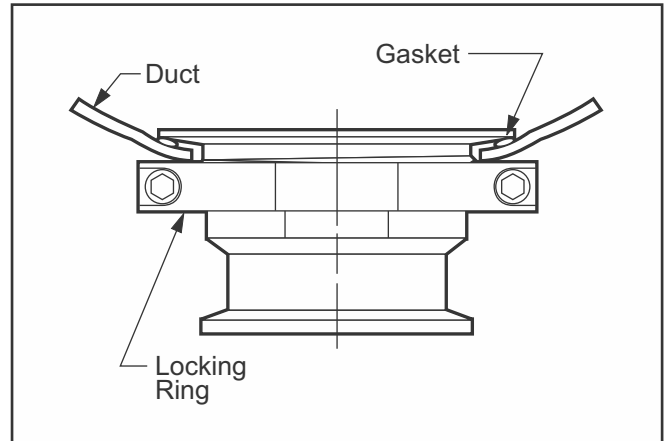

Fig. 34: Field Installed 2" FT Flange Configuration
3. Swage Hole: Slide the 1-5/16" outer swage tool onto the 3/4" actuator stud. Insert the actuator stud and outer swage tool into the 1-5/16" hole. From inside the duct slide the matching inner swage tool onto the actuator stud. Invert and thread the 1-5/16" punch onto the actuator stud (cutting surfaces facing away from the inner swage tool) until the inner swage tool, the duct and the outer swage tool are snug. Operate the hydraulic actuator to compress the swage tools together to form the swage. Loosen and remove the swage tool. (Fig. 34)